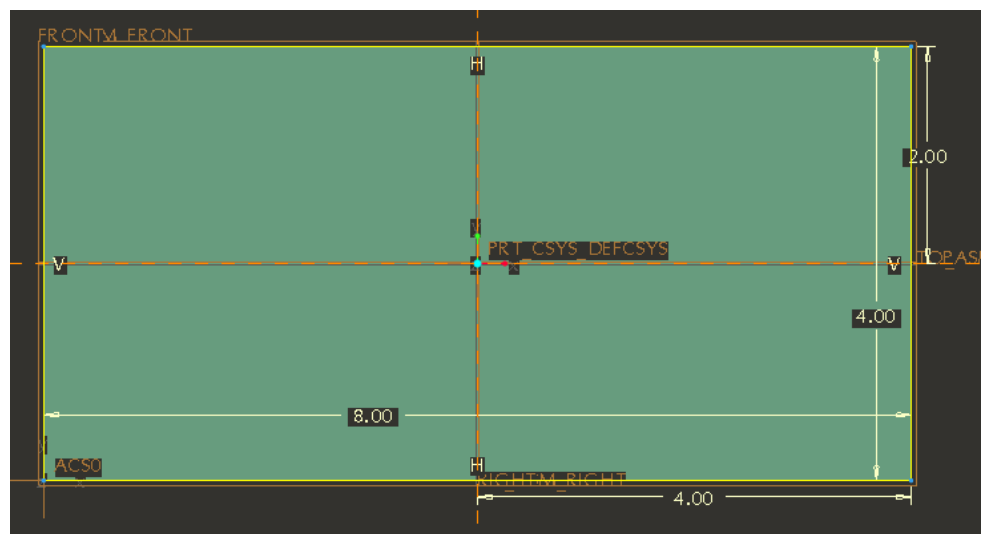

Figure 1.36
- Sketch a rectangle window 4" x 8" exactly on the top of workpiece as shown in figure 1.36. Click on  to exit sketch.